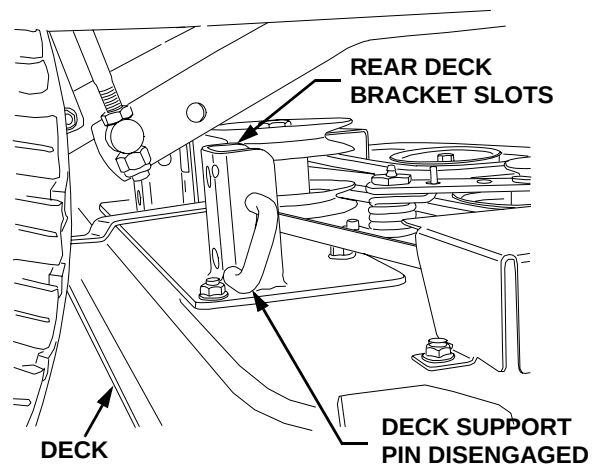

Figure 6-22
6. If not already done, pull the deck support pins outward, turn downward and release so both spring-loaded pins are held in the disengaged position against the outer surface of the deck brackets (Refer to Figure 6-22).